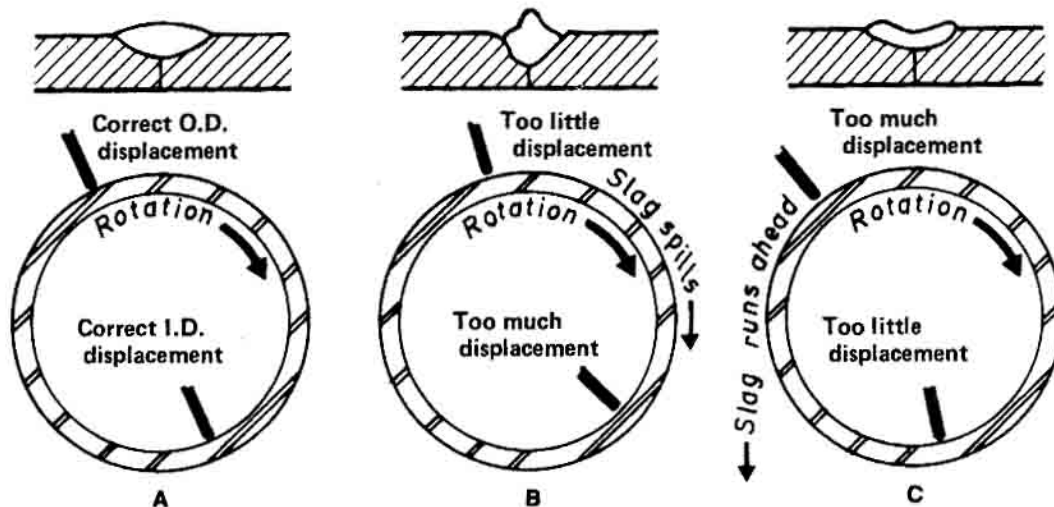

FIGURE 15
1. **Electrode Position** — To prevent spillage or distortion of the bead shape, welds must solidify as they pass over the vertical center of the part. (See Figure 15.)